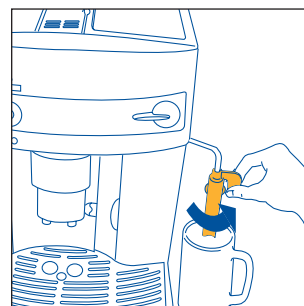
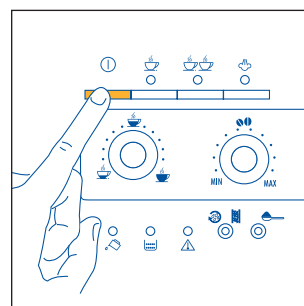

Fig.3
Fig.4
2. Move the milk frother towards the outside and place a cup underneath (Fig.3). Then turn the machine on by pressing the **ⓘ** button (Fig.4).
- Turn the milk frother towards the outside of the machine (Fig. 3).
- Position a container underneath the milk frother (Fig. 3).
- Move the milk frother towards the outside (Fig. 3).